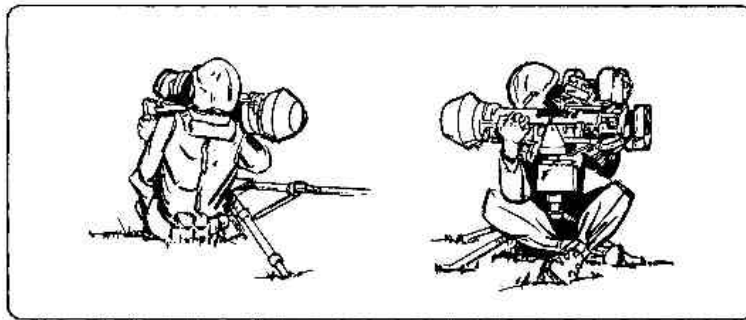

Figure 7-10. M3 or M122 tripod positions.
- (4) Position the right hand on the M175 mount firing mechanism the same as with the tracker firing mechanism: right thumb on safety; index, middle, and third fingers on the trigger lever; and the little finger forward of the trigger mechanism.
- b. Demonstrate the position for the M3 or M122 tripods, then have the soldiers assume the position (Figure 7-10).